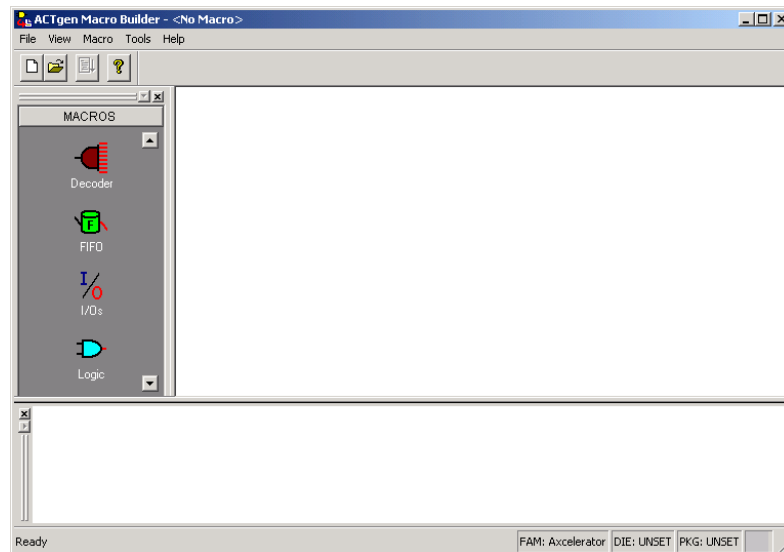

Figure 8 • Selecting the I/O Macro
- Click on the I/O Icon under the Macro window (Figure 8 on page 5).